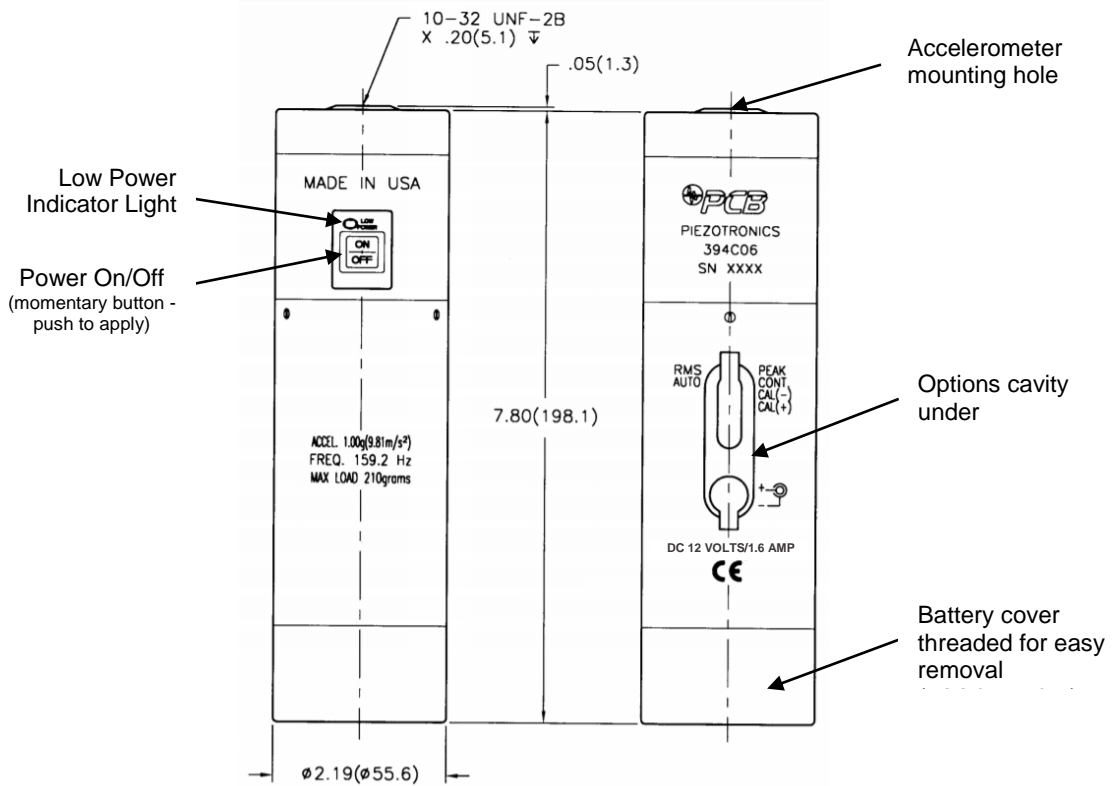

Figure 1: Model 394C06 Handheld Shaker
Model 394C06 permits accurate adjustment of measuring instrumentation to output a standard acceleration level of 1 g RMS or 1 g peak, with automatic internal compensation for the applied mass. The reference signal may also be used for velocity and displacement, at 10 mms⁻¹ RMS or 10 mms⁻¹ peak and 10 μ m RMS or 10 μ m peak-to-peak respectively. To change between RMS and peak, depress the corresponding side of the rocker switch in the options cavity of the shaker. For example, to choose RMS, depress the left side of the rocker switch as illustrated in **Figure 1**.
With the accelerometer mounted to the shaker, push the On/Off button (**See Figure 1**). The unit will turn on and internal power to the shaker will be ramped up providing a smooth, gradual increase in vibration amplitude. This process prevents shock-induced overloads to the test sensor. A special reference sensor within the unit constantly measures the g level and internal controls adjust the shaker magnitude to maintain 1 g output while maintaining the frequency of 159.2 Hz. A relatively stiff suspension is used within the shaker that supports any sensor up to 210 grams. The output indicating instrument should now be reading the relevant reference value related to the 1 g input. If reference value is not as expected, check cable connections, consider validating ICP® sensors for turn-on with a battery powered signal conditioner (model 480C02). Following the system adjustment, the shaker is switched off by pressing the On/Off button a second time.
- **Calibration Check Points:** Calibration of the internal feedback circuit can be verified via test points (located in the options cavity – **see Figure 1**). The measured value in volts AC should agree with the calibration certificate. This is useful for a quick field check of unit integrity, which may be necessary if the shaker is dropped and a reference standard is not immediately available. This test is not a guarantee of shaker function. If the data does not agree with expected values, the shaker should be checked with a calibration standard before continued use.
- **Low Power Indicator:** A low power indicator light is located above the On/Off switch (**See Figure 1**). This light glows when the available power is marginally adequate to drive the shaker (with the mass on the shaker). This indicator does not signify erroneous data. If model 394C06 cannot obtain 1 g at 159.2 Hz, then the unit shuts off. The low power indicator signifies an imminent inability to drive the mass on the shaker because the test sensor is too heavy, the batteries are low on power, or the external power supply is inadequate.